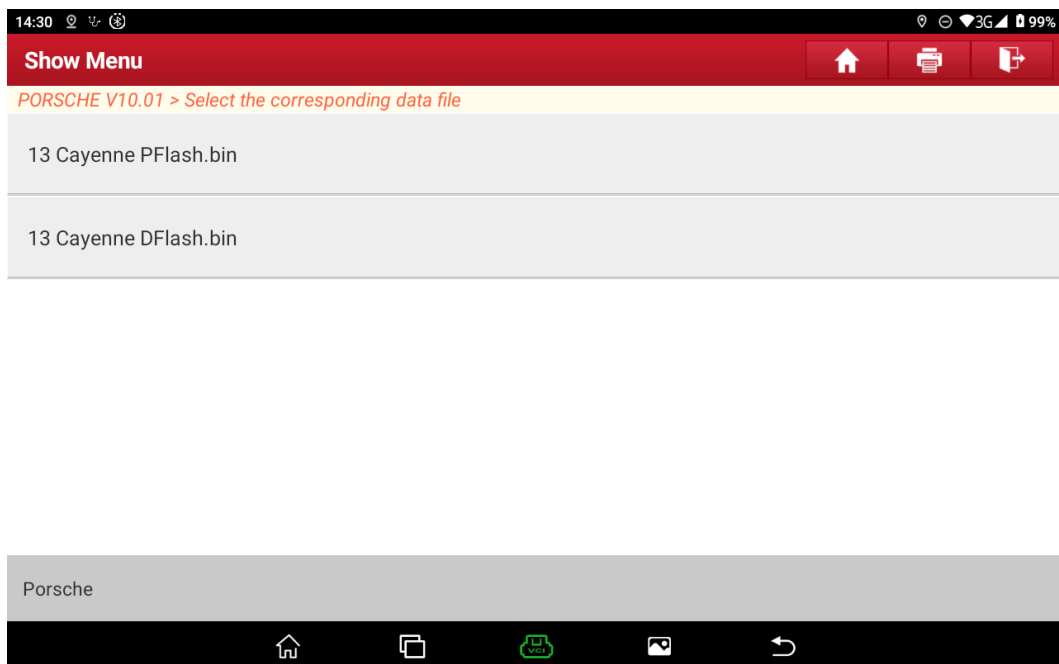

Figure 3-3 Immobilizer data list
18. Access the system. A list of backed up immobilizer data files is displayed, as shown in Figure 3-3.